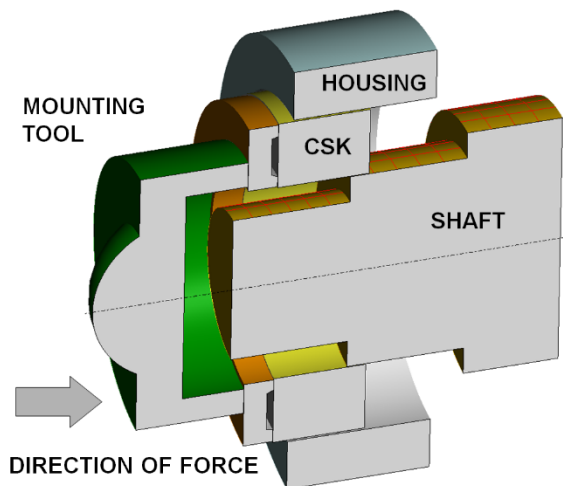

Figure 3: Mounting tool
Use appropriate mounting tools (see Fig.3), whereby the tool should be provided with an undercut for the plastic cage.
- Press or push (with keyway) the inner and outer race simultaneously. Use appropriate mounting tools (see Fig.3), whereby the tool should be provided with an undercut for the plastic cage.